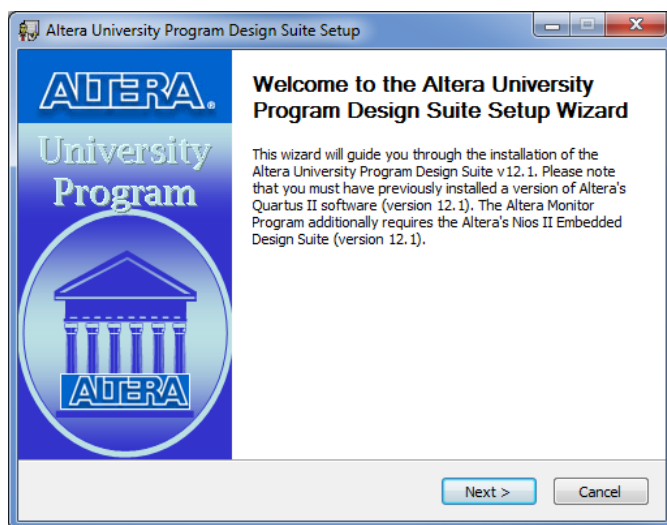

Figure 1. Altera UPDS Setup Program.
2. The first screen of the installer is shown in Figure 1. Click on the Next button.